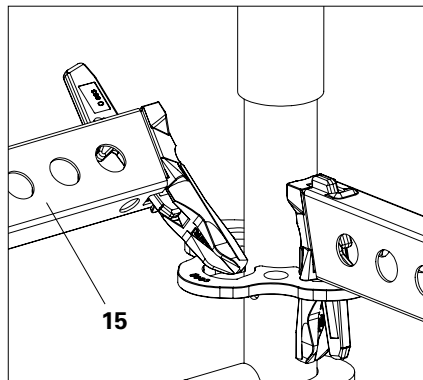

Fig. A3.04a
1. Place Ledger UH (**15**) or UHV diagonally on both rosettes and set vertically. (Fig. A3.04a)